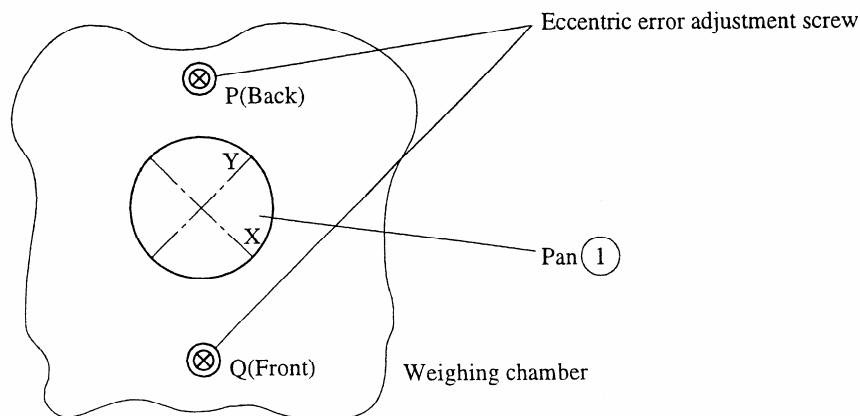

Fig. 18
- (3) Load the weight at the center on weighing pan (1*) and press the TARE key to display 0.0000 g.
- (4) Regard the value displayed when the weight is moved to X position on weighing pan (1*) as X g. (See Fig. 18 on page 24.)
- (5) Regard the value displayed when the weight is moved to Y position on weighing pan (1*) as Y g. (See Fig. 18 on page 24.)
- (6) Make adjustment until the absolute values of X g and Y g becomes 10 mg or less respectively.
- (1) The case assy must be mounted on the base.
- (2) Same as (2) in “6.6 Rough adjustment of the eccentric error.”
- (3) Load the weight at the center of weighing pan (1*) and press the **TARE** key to display 0.0000 g.